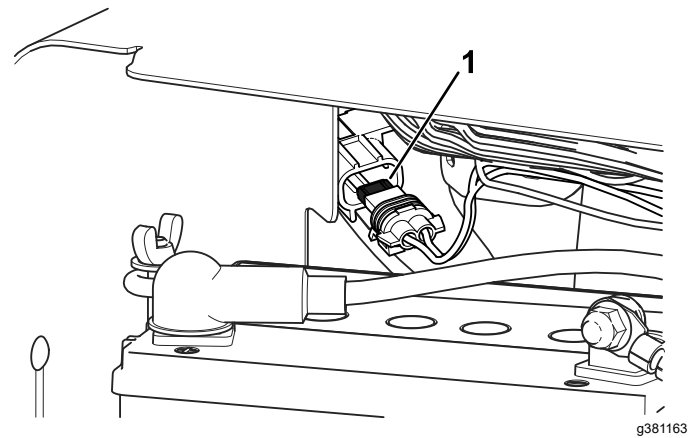

Figure 173
**Note:** The fan fuse is located in-line behind the battery (Figure 173).